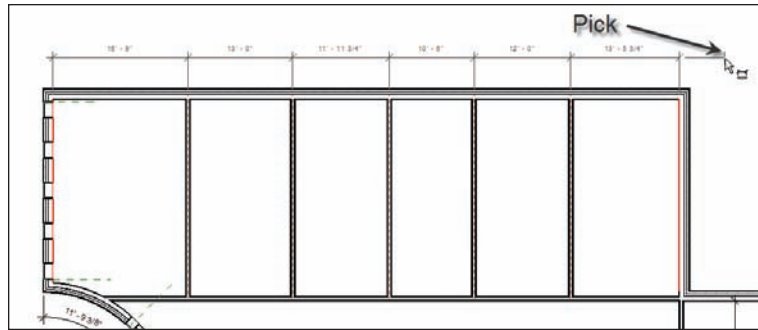

FIGURE 5.30 Picking a point away from the last dimension to place the string
4. Placing a dimension in Revit is a little awkward, but you will get the hang of it. You need to pick a point away from the last dimension in the string, as shown in Figure 5.30, almost as if you are trying to pick another item that is not there. When you do this, the dimension will be in place.